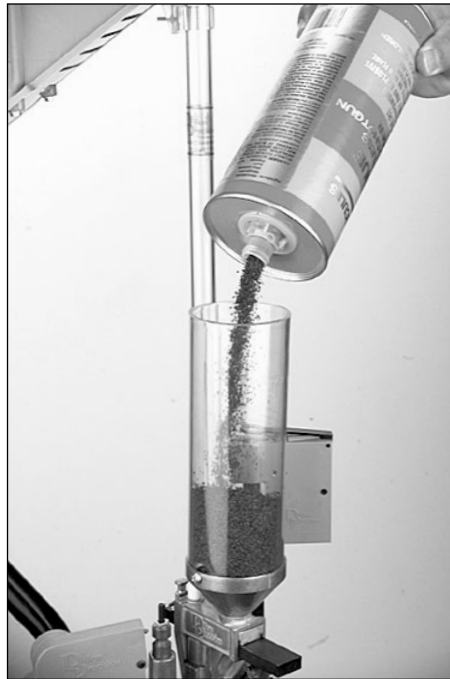

FIG 136
2. Fill the powder measure and replace the cap on both the powder measure and the powder container **FIG 136**.